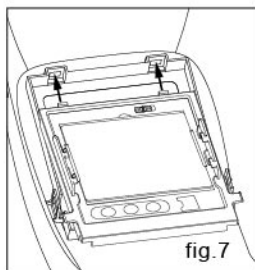

fig.7
- **CHANGING THE SHADE CARTRIDGE** (See fig.7).